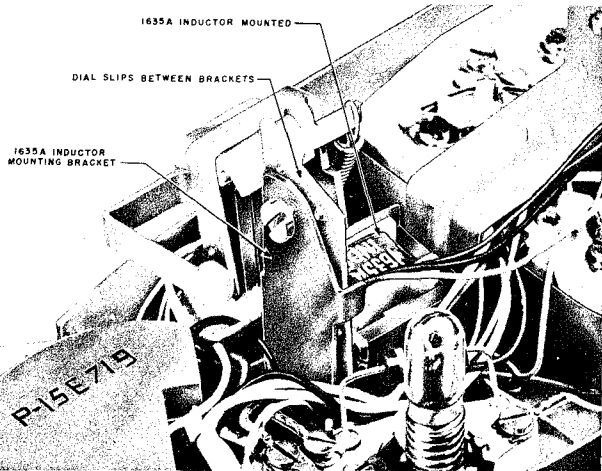

Fig. 14 — 1635A Inductor Mounted in 701B Telephone Set
3. Insert inductor as shown in Fig. 14.
5. Mount dial assuring that the dial mounting lug is between the 1635A inductor bracket and the dial mounting bracket. (See Fig. 14).